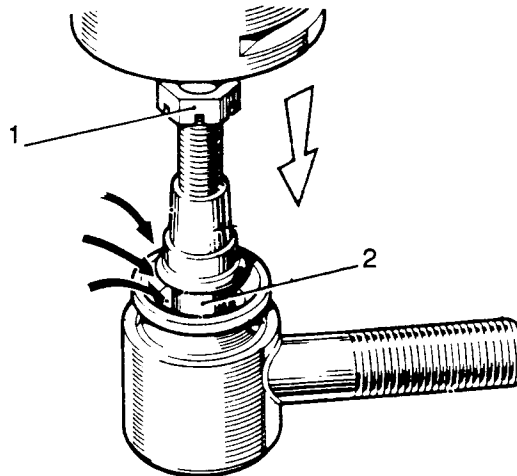

Fig L5.19
- (4) Refer to Fig L5.19. Place the castle nut (1) upside down on the pin and screw on a few threads.
(5) Place the ball joint under a press or between the jaws of a vice and carefully force the pin and ball down against the spring. In this position the interior of the ball joint can be cleaned and lubricated.
- (6) Apply grease around the taper (2) and fill the replacement rubber boot.